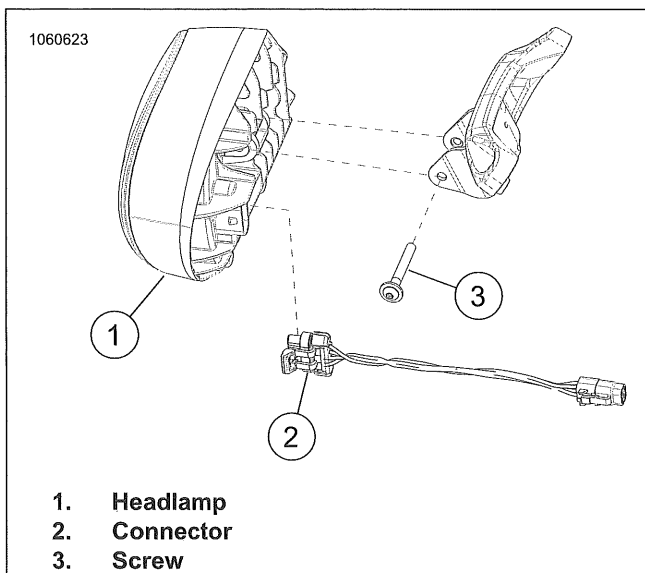

Figure 7-45. Oblong Headlamp
1. See Figure 7-45. Remove screw (3).
2. Remove headlamp (1).
3. Disconnect connector (2).
1. See Figure 7-45. Connect connector (2).
2. Install headlamp (1).
3. Install screw (3). Tighten.